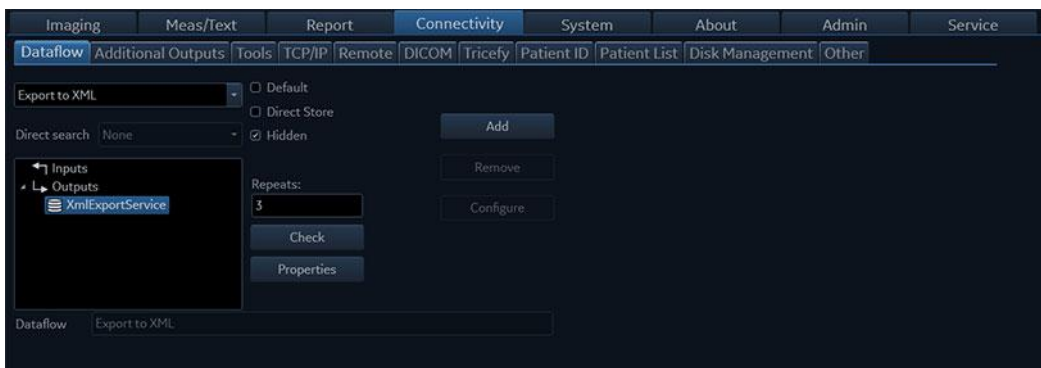

Figure 12-69. The Dataflow sheet (Export to XML)
2. Select the **Connectivity** category and **Dataflow** subgroup. The *Dataflow* sheet is displayed (Figure 12-69).